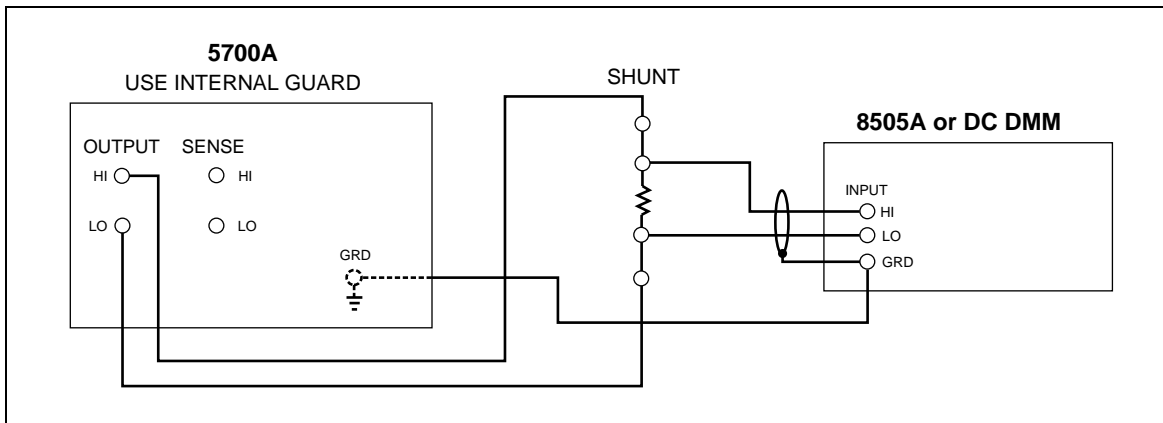

Figure 3-8. Direct Current Accuracy Test Setup
- Connect the equipment as shown in Figure 3-8 using the L&N 0.1Ω resistor.